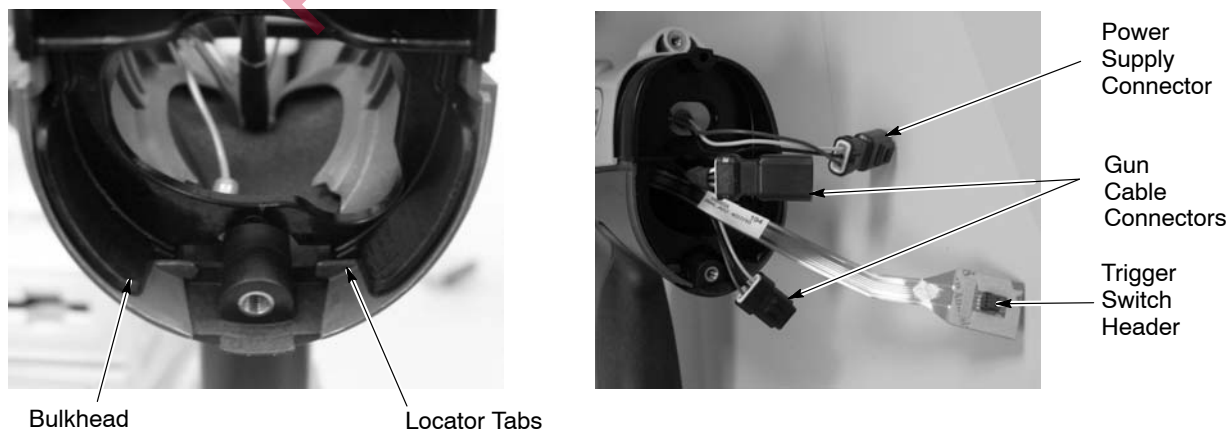

Figure 5-13 Assembling Bulkhead and Routing Cables
13. See Figure 5-13. Position the lower edge of the bulkhead (8) behind the locator tabs in the rear of the handle assembly and rotate the top of the bulkhead forward until it snaps into place on the handle and gun body.